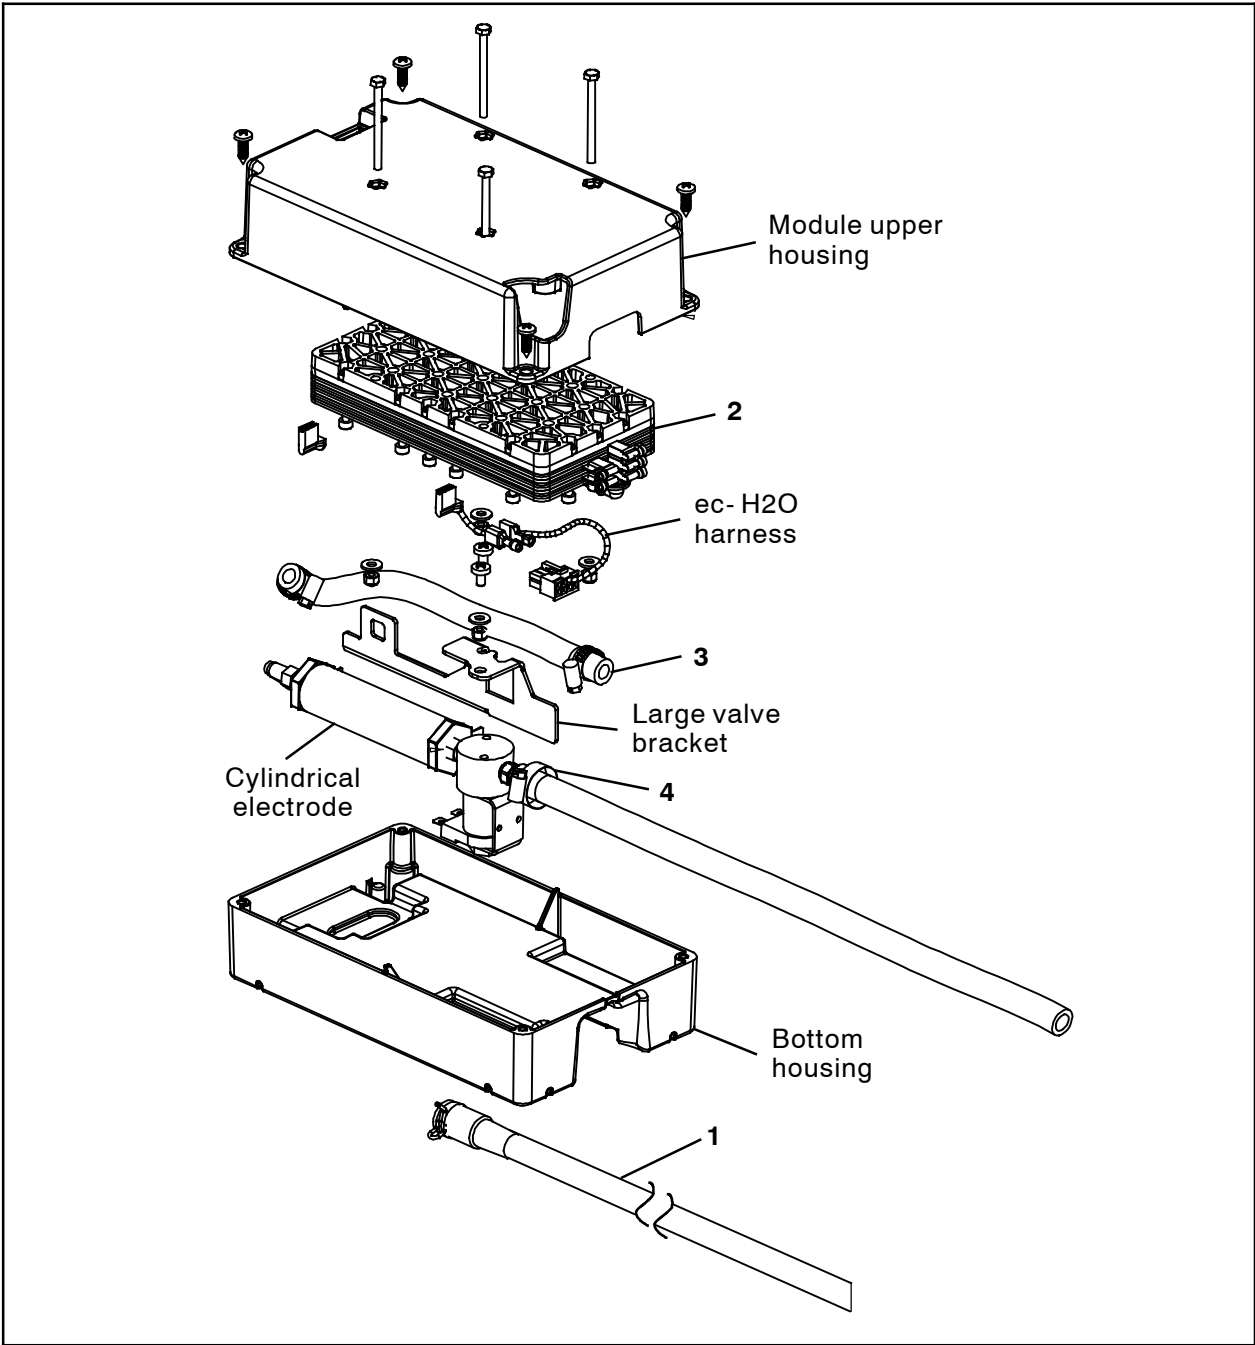
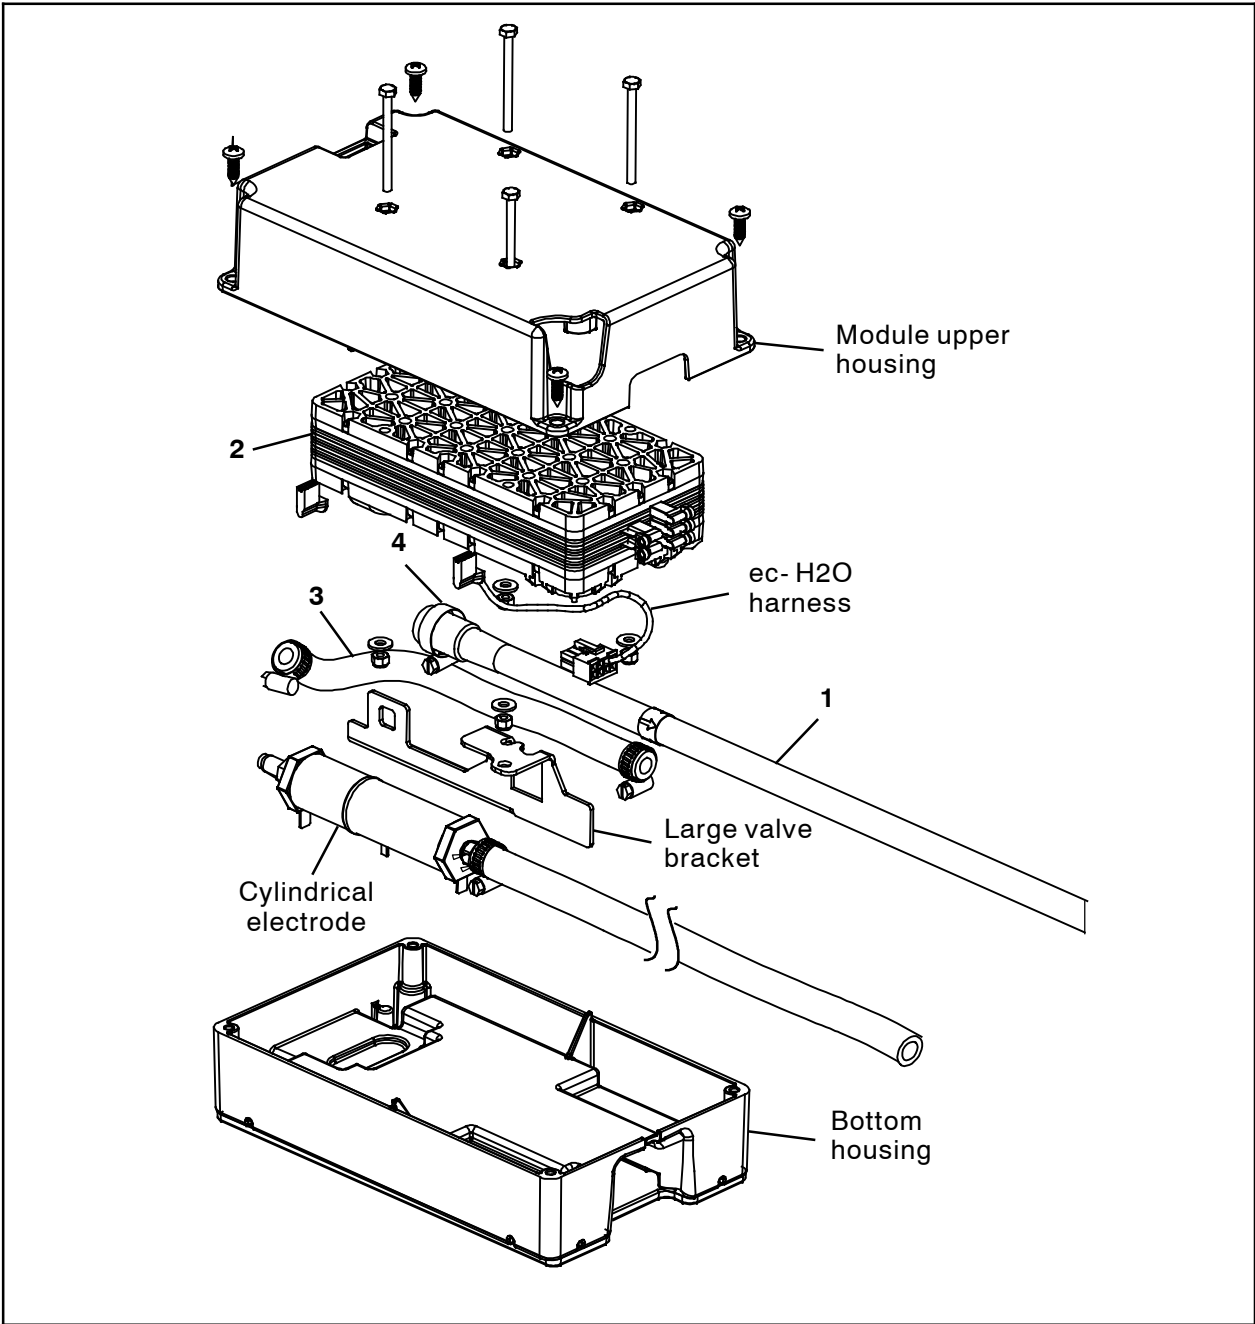

FIG. 3 - 1049958
FIG. 4 - 1212103
4. Remove module upper housing from the bottom housing. Set all hardware aside. (Fig. 1/Fig. 3/Fig. 4)
5. Disconnect the PVC hose from the 5- plate electrode IN port. Set the hose clamp aside. Discard the removed PVC hose. (Fig. 1/ Fig. 3/Fig. 4)
6. Disconnect the molded hose from the 5- plate electrode OUT port. Discard the removed PVC hose and hose clamp. (Fig. 1/Fig. 3/ Fig. 4)
7. Remove the hardware securing the 5- plate electrode to the module upper housing. Set all hardware aside. (Fig. 1/Fig. 3/Fig. 4)
10. Use saved hardware to install the 5- plate electrode (2) into the module upper housing. (Fig. 1/Fig. 3/Fig. 4)
13. Reinstall module upper housing onto the bottom housing. Do Not pinch hoses/wires between the module upper housing and the bottom housing. (Fig. 1/Fig. 3/Fig. 4)
14. **If ec- H2O module was removed from the machine to install the new 5- plate electrode (2):** Reinstall the ec- H2O module onto the machine.